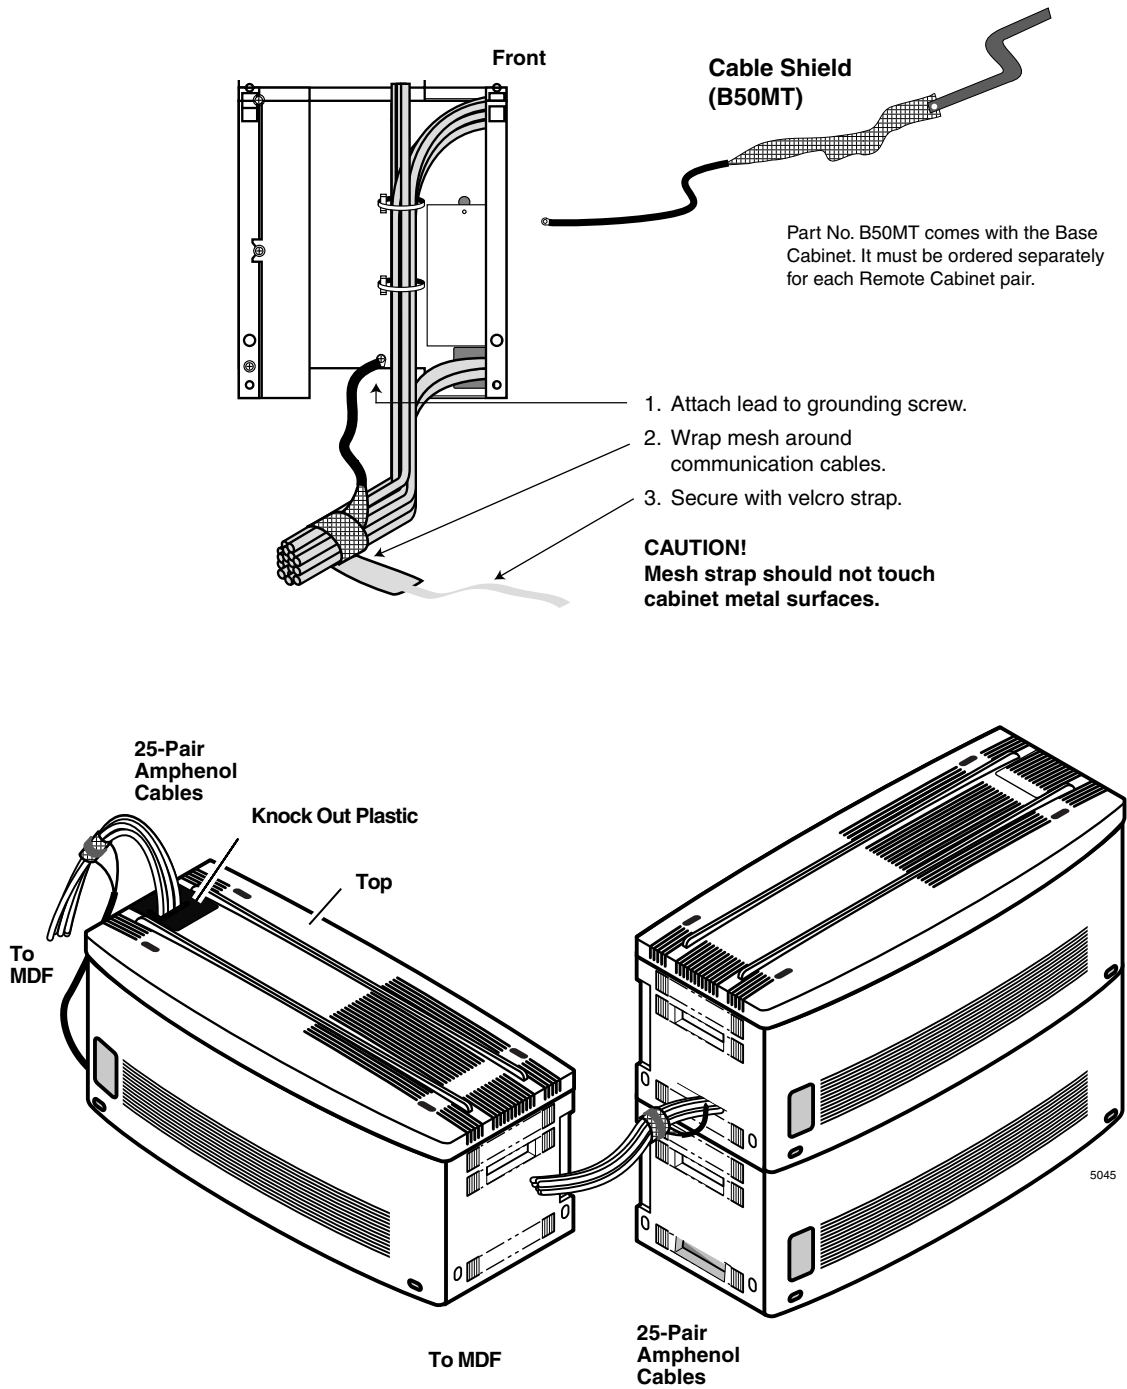

Figure 4-10 Cabinet Amphenol Cables
2. Wrap the cables in with the mesh tie. The purpose of the wrap is to shield the cables from EMI/RFI effects. See Figure 4-10.
Wrap the cable mesh shield (part No. B50MT) around the 25-pair communication cables that carry stations over tip and ring, per Figure 4-10.